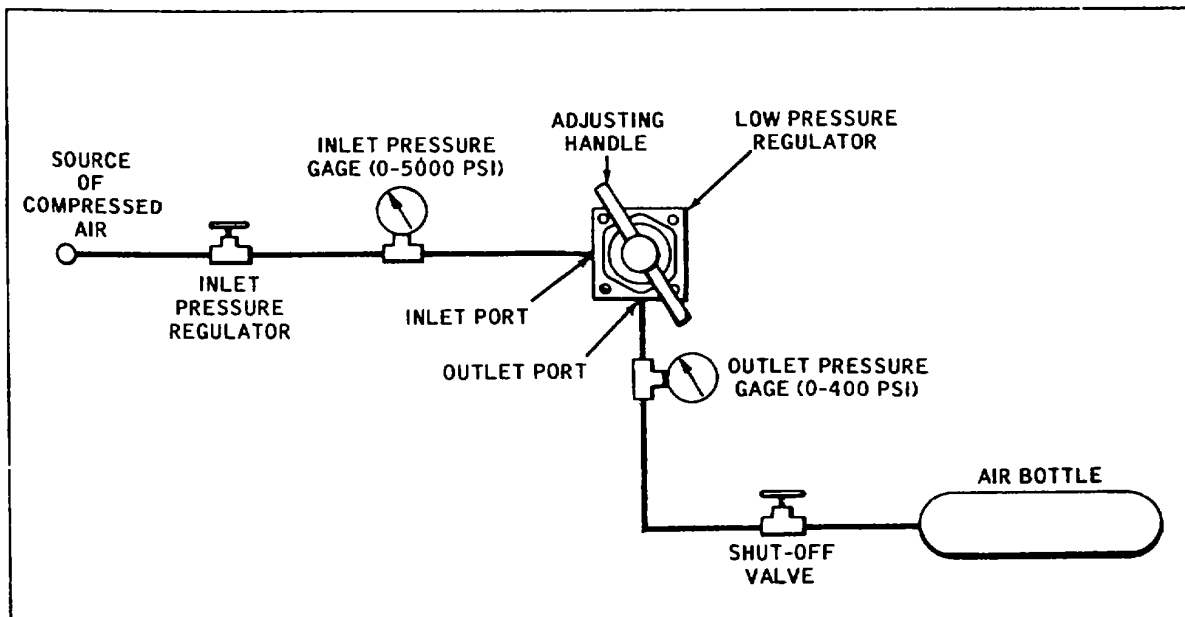

Figure 4-1. Set-up for Testing Low Pressure Regulator
a. Connect pressure regulator to test set-up as shown schematically in Figure 4-1.